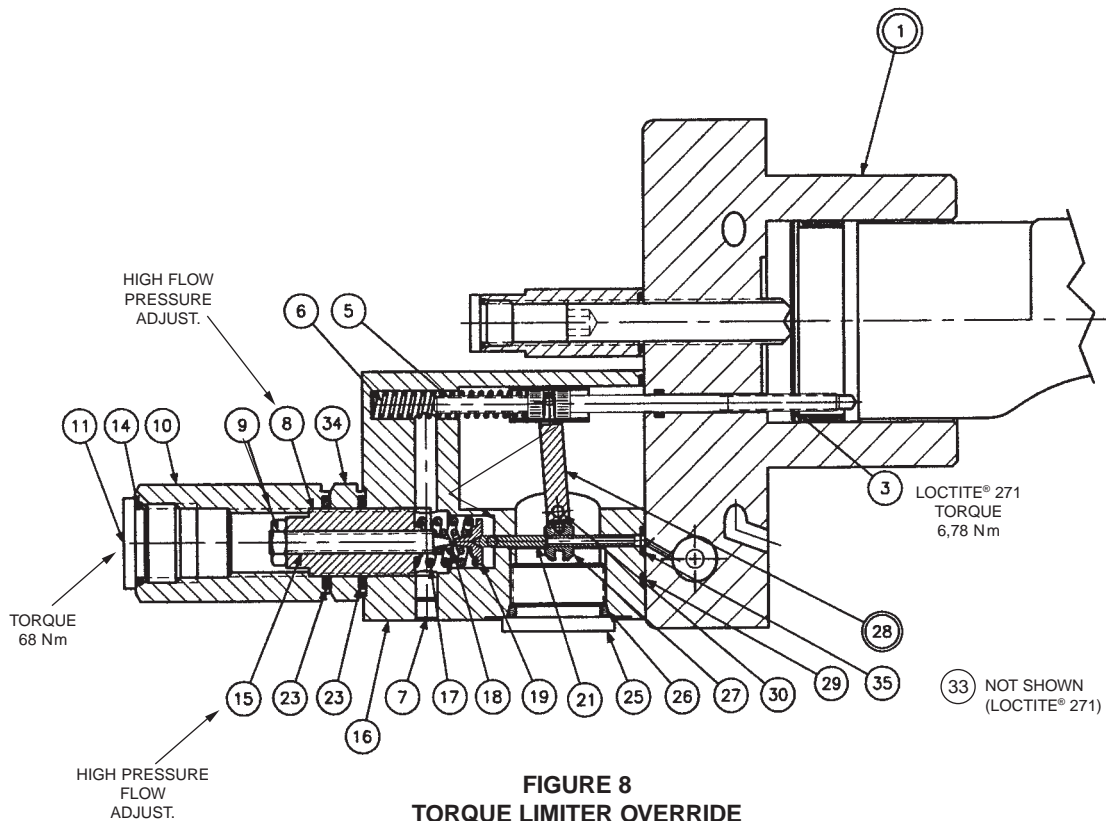
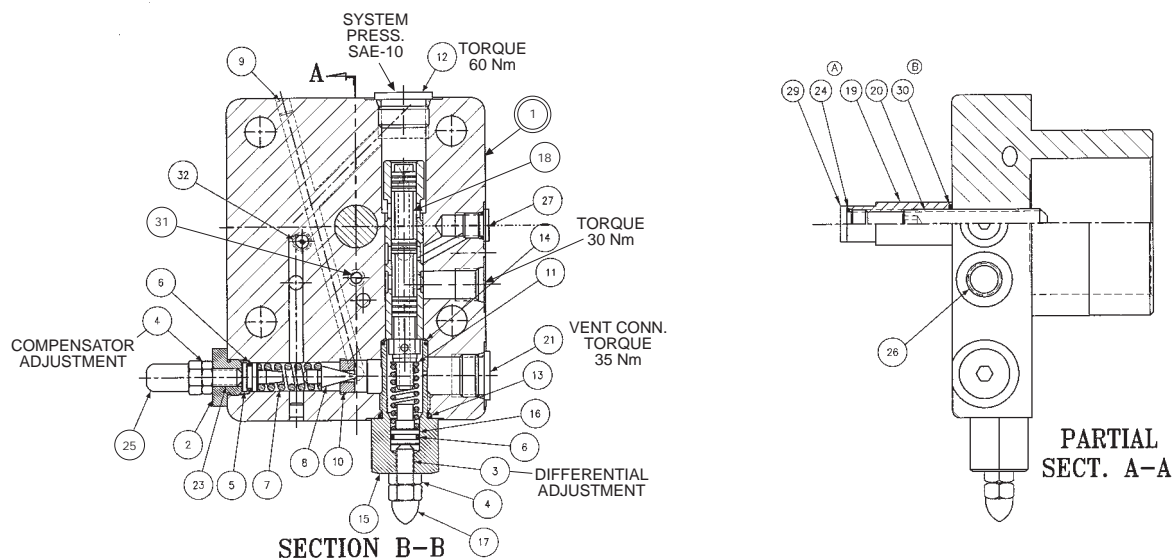

FIGURE 8
FIGURE 9
1. **See figure 8.** Remove 2 screws holding torque limiter body (16) to cap assembly (1).
2. Remove all parts from torque limiter body (16) except pin (30) and arm assembly (28). It is not necessary to remove these parts unless broken or worn. Examine parts for wear or damage.
3. Remove screw (3). Examine head for excessive wear, and body for smooth sealing surface with O-ring.
4. **See figure 9.** Remove maximum volume stop assembly (items 19, 20, 21, 22, 27).
5. Remove cap assembly (1).
6. Remove plug (15) and attached parts. Remove spring (11) and spool (18).
7. Remove adjusting plug (2) and attached parts. Remove seal piston (5). Note: a 10-24 screw may be attached to assist in pulling the piston. Remove spring (7) and cone (8).
8. Do not remove sleeve in body (1). Sleeve is pressed into cap and finished to size. If sleeve, snout or cap is worn, replace the cap-sleeve assembly (1).
9. Examine seat (10) for wear. Do not remove unless damaged.
1. **See figure 9.** Install Avseal plugs (9) and orifice (32).
2. Press seat (10) into bore squarely against shoulder in bore.
3. Install spool (18) into bore as shown. Install spring (11) over end of spool. Install O-ring (6) on seal (16). Lubricate and install into plug (15). Install O-rings (13) and (14) on plug (15). Install plug (15) into cap. Install screw (3), nut (4) and acorn nut (17).
4. Install O-ring (6) on seal piston (5).
5. Lubricate O-ring and install cone (8), spring (7) and seal piston into bore in cap (1), being careful that cone enters seat (10). Install adj. plug (2), screw (25), nut (4), and acorn nut (25).
6. Install plug (12) and torque to 60 Nm. Install plug (21). Torque to 35 Nm.
7. Carefully install O-ring (31) into the cap.
9. Install maximum stop screw (20), cover (19), O-ring (30) and plug (29) with O-ring (24).
10. **See figure 8.** Apply Loctite® on threads of screw (3), lubricate the shank, thread through the cap into the control piston, and torque to 6,78 Nm.
12. Press dowel (30) into body (16), through the link assembly (28), to 6,35 mm below surface. Apply Loctite® to threads of screws (33) and install over dowel (30).
13. While sleeve (27) is engaged into dowel on link (28), slide spool (21) into bore of body (16), and through sleeve (27). Spool (21) must move freely and easily at all positions of the link (28).
14. Assemble remaining parts per drawing. Torque plug (11) to 68 Nm.
15. While spring retainer is engaging screw (5) under dowel of link (28), slide the other opening of spring retainer over the top of the screw (3). Attach body assembly (16) to cap (1) and torque assembly screws to 102 Nm.
PARTS LIST FOR FIGURE 8
PARTS LIST FOR FIGURE 9,
5. For setting and testing compensator override function, disable torque limiter in this manner: Back out primary adjusting screw (15) figure 8, to remove all load. Turn in outer adjusting screw (8) to go solid. Caution! do not apply over 1,2 Nm torque to avoid damage to internal parts!